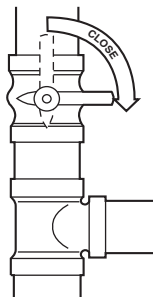

Fig. 5 - Close Valve
2. Close the external manual gas valve. See Fig. 5.
2. Close the external manual gas valve. (See Fig. 5)